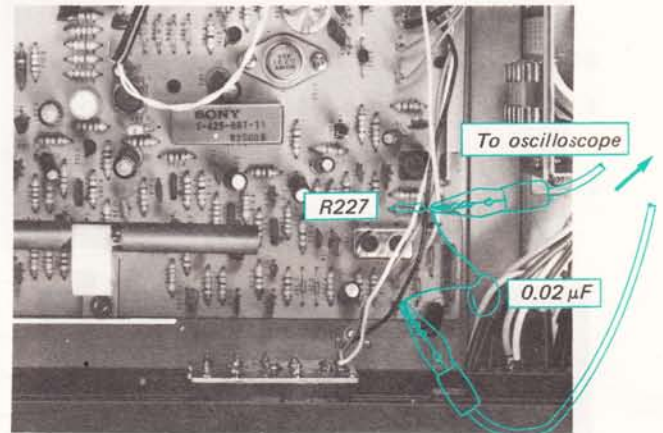

Fig. 3-3. Fm discriminator output connection
1. Connect the input cable of the oscilloscope with alligator clips to R227 and ground on the fm (a-m) front-end/i-f amp/MPX board, and solder a 0.02μF capacitor across these clips as shown in Fig. 3-3.